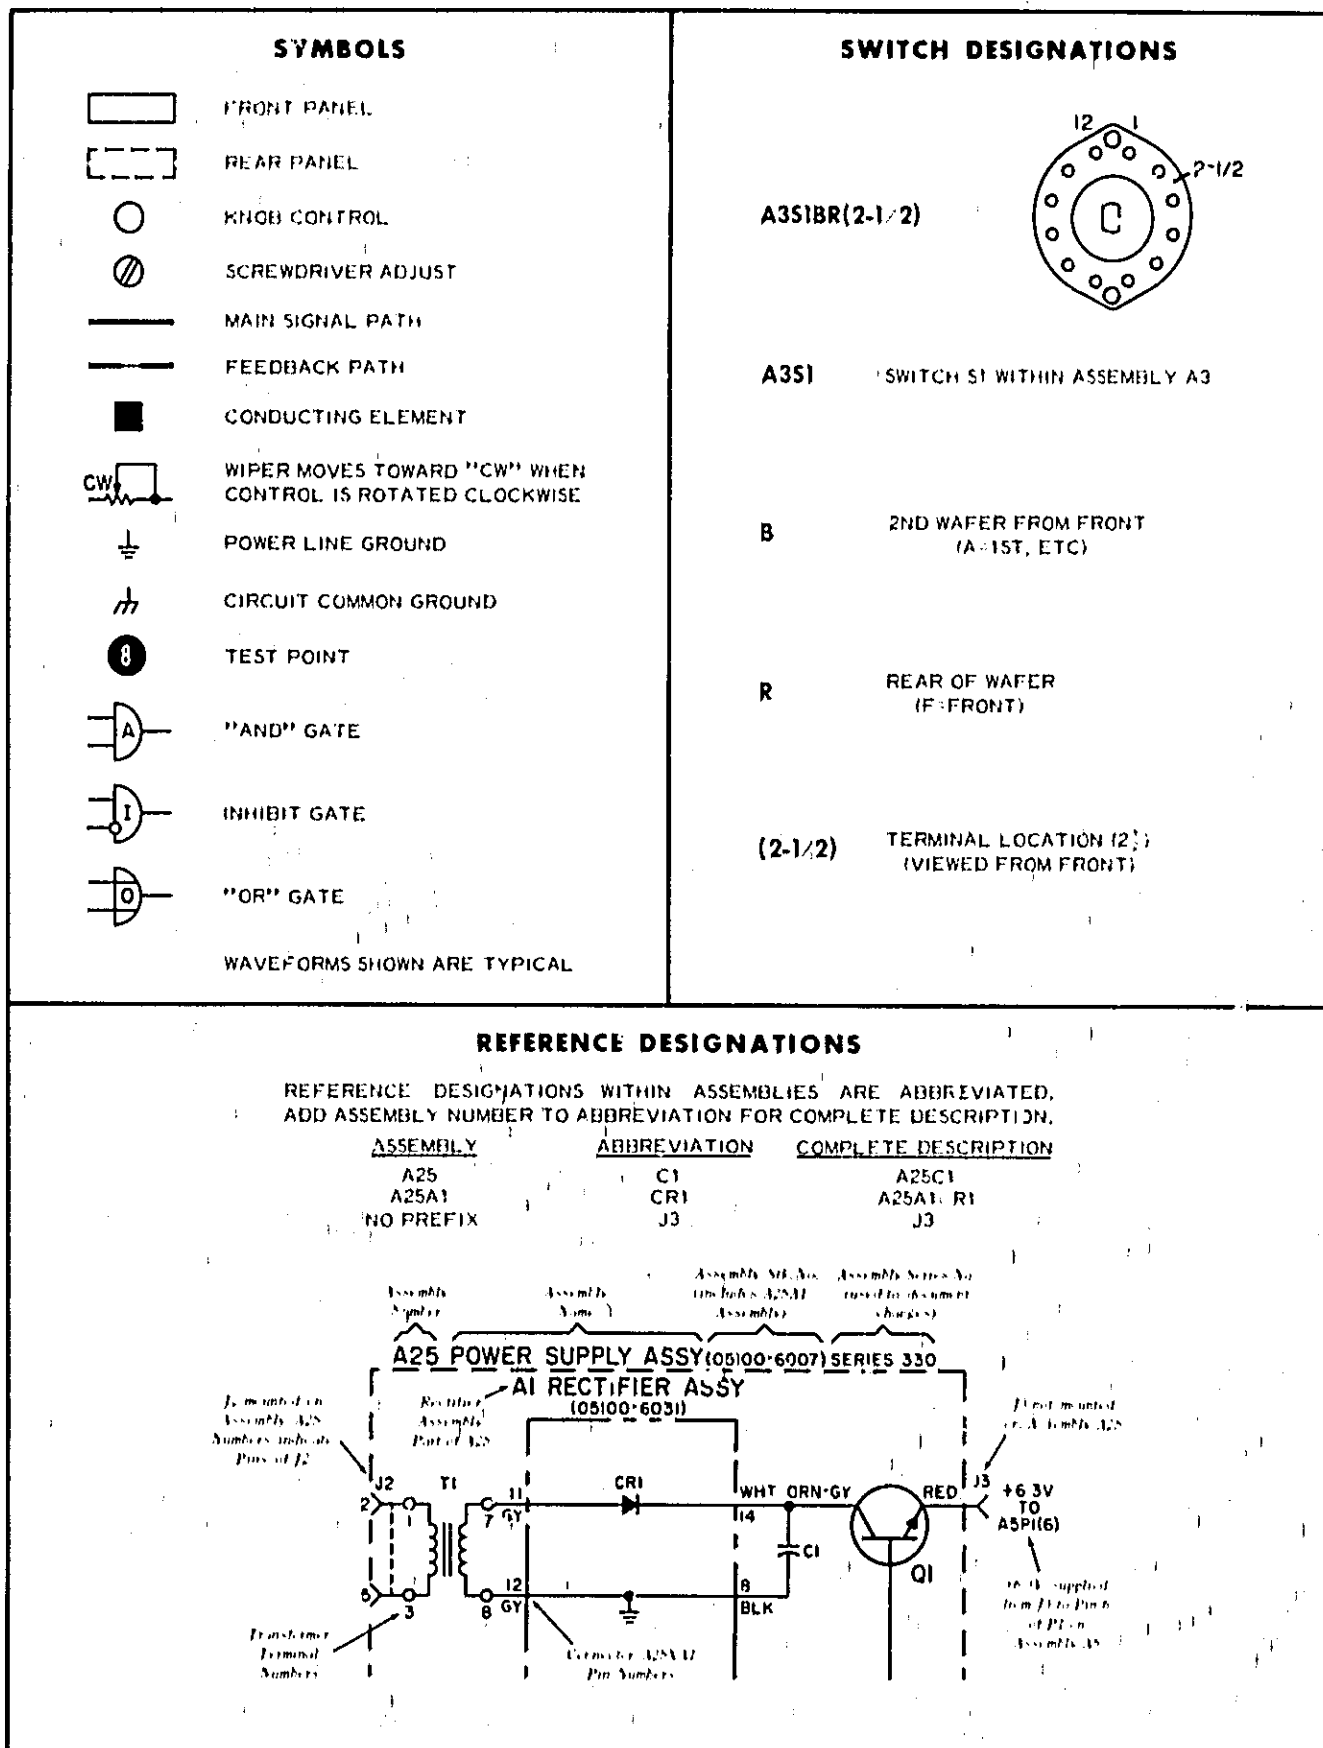

Figure 8-1. Schematic Diagram Notes
- a. General Notes for Schematic Diagrams (Figure 8-1).